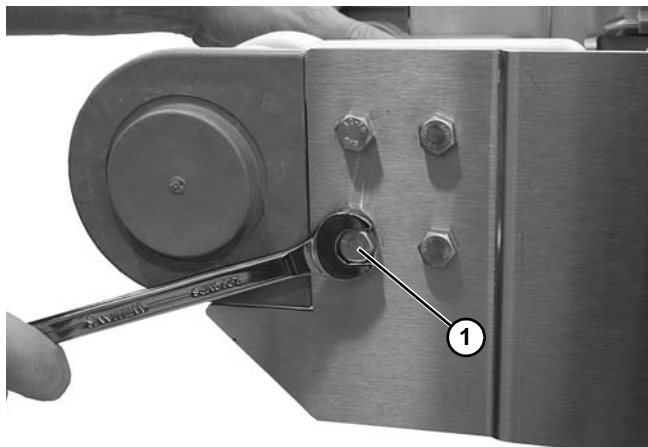

Figure 63
2. Remove the four headplate screws (Figure 63, item 1).